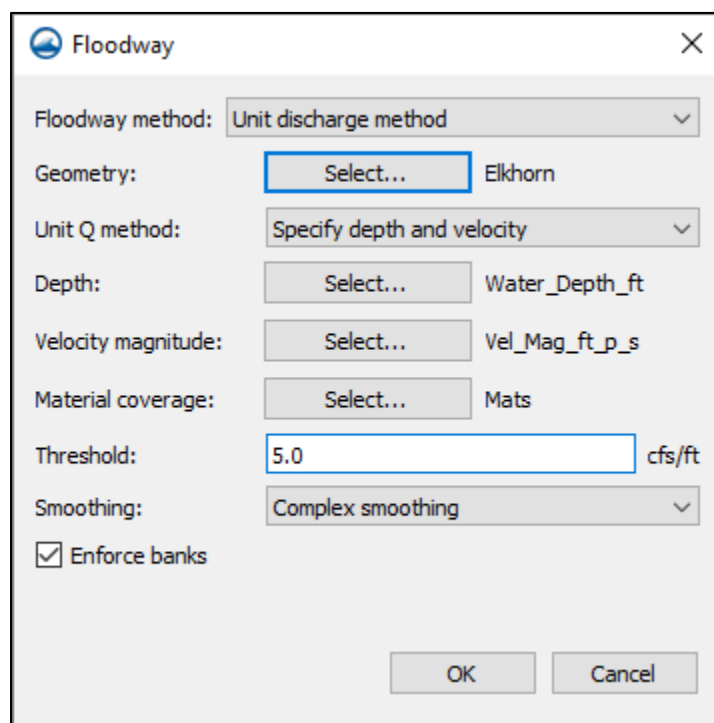

Figure 2 Floodway dialog with unit flow options.
1. Right-click “ 1D-Hyd Centerline” and select **Floodway...** to bring up the *Floodway* dialog (Figure 2).